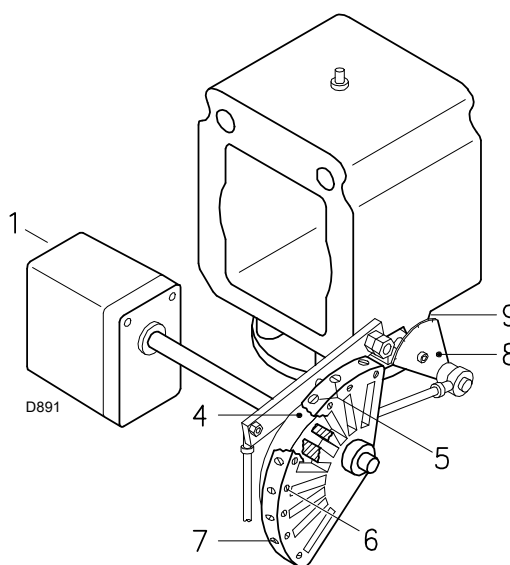

Fig. 31
Progressively adjust the end profile of cam 4) (Fig. 31) by turning the screws 7).
Key (Fig. 31)
Progressively adjust the initial profile of the cam 4) Fig. 31 on page 26 by turning the screws 5).
- release the cam 4) Fig. 31 on page 26 from the servomotor by pressing (and moving to the right) the release button on the servomotor;
- Once optimum adjustment has been reached, fix it with the screws 6) Fig. 31 on page 26.